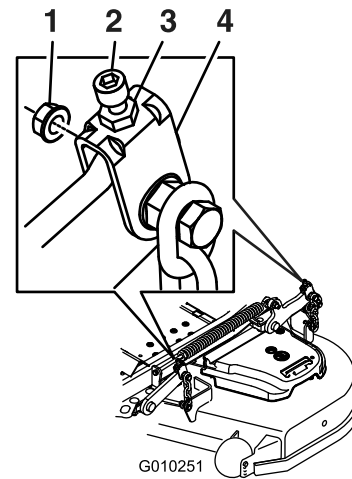

Figure 86
10. If needed, loosen the locknut on the side of the yoke and the jam nut on top. Fine tune the screw adjuster by turning it to attain the 7.6 mm (3 inch) height (see Figure 86).
16. Fine-tune the screw adjuster by turning it to attain to the 8.3 mm (3-1/4 inch) height (Figure 86).